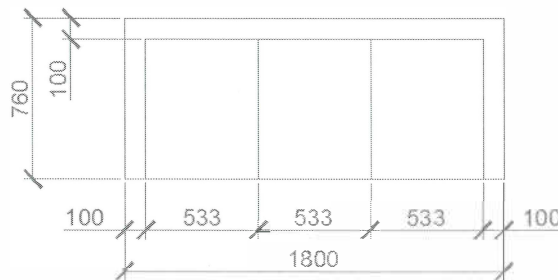

Figure 5–8
In this task, you will define a block for a couch, first drawing the objects and then using the **Create Block** command, as shown in Figure 5–8.
3. Zoom in on any one of the rooms and draw a couch (without the dimensions; they are for reference only), as shown in Figure 5–8. Add **1mm** to the middle seat to make it **534mm** wide.